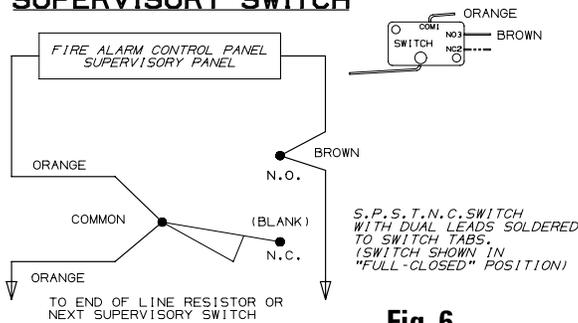

Fig. 6
1. See Figure 6 for Supervisory Switch wiring schematic.